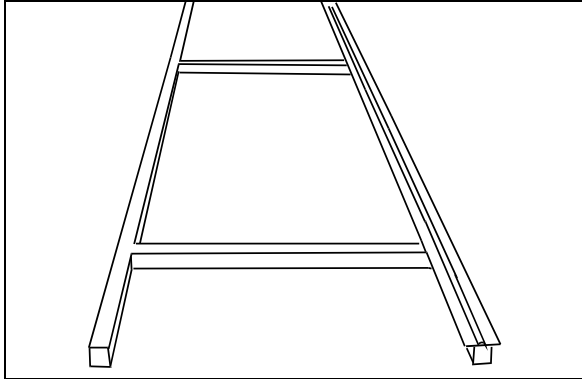

FIGURE 40: SUPPORT RAIL INSTALLATION 06501
2. Set the support rail (Prévoist #29261) down (Figure 40). Using shims, adjust its level to stabilize it.
1. Set the support rail (Prevost #29261) down (Figure 40). Using shims, adjust its level to stabilize it. Use previous reference marks to ensure proper positioning.